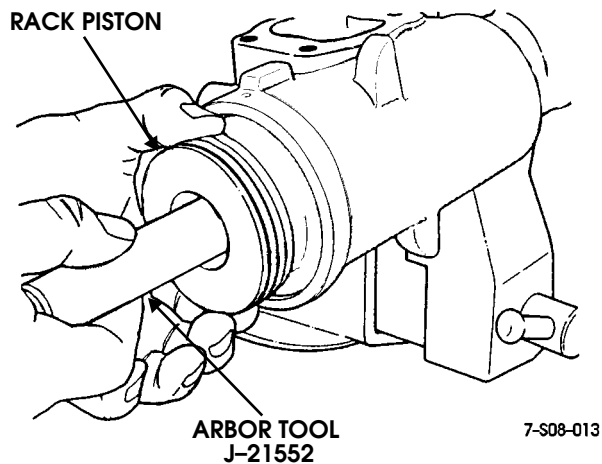

Figure 8-39: Rack Piston Removal
3. Insert arbor tool J-21552 into rack piston (Figure 8-39).
4. Hold arbor tool tightly in rack piston and turn stub shaft counterclockwise to push rack piston out of housing. Then remove rack piston, and arbor tool as assembly (Figure 8-39).